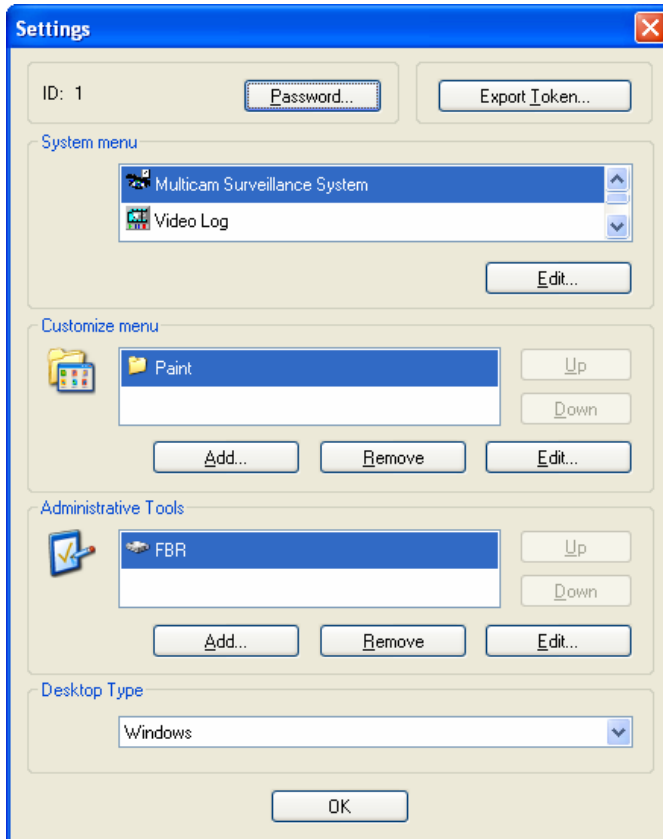

Figure 11-12
1. Click the **Export Token** button (Figure 11-12) to display the following dialog box.
7. When the Settings window (Figure 11-12) appears, select **Windows** in the Desktop Type field, and then exit from the window.